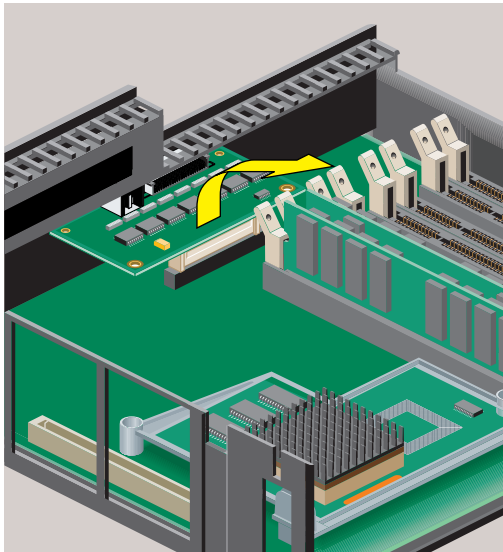

Figure 2-45 Removing the Display Adapter Board
4. Grasp the board on either side and gently rock it out (Figure 2-45). Do not exaggerate the rocking motion, or you will bend the pins.